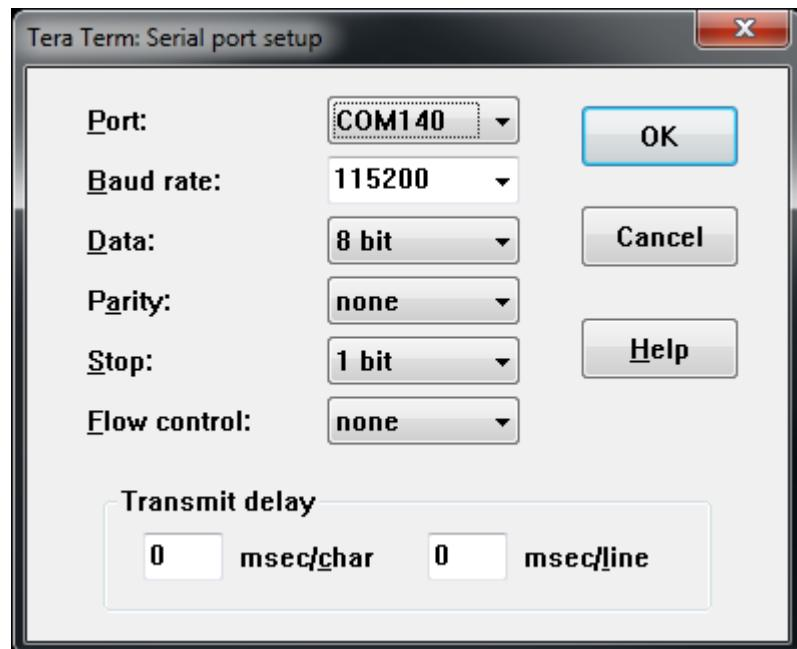

Figure 11. Serial port setting configuration
- 6) Set the **Baud rate**, **Data**, **Parity**, **Stop** and **Flow control** parameters (see Figure 11). Leave the **Transmit delay** fields with default values (0), and click **OK**.